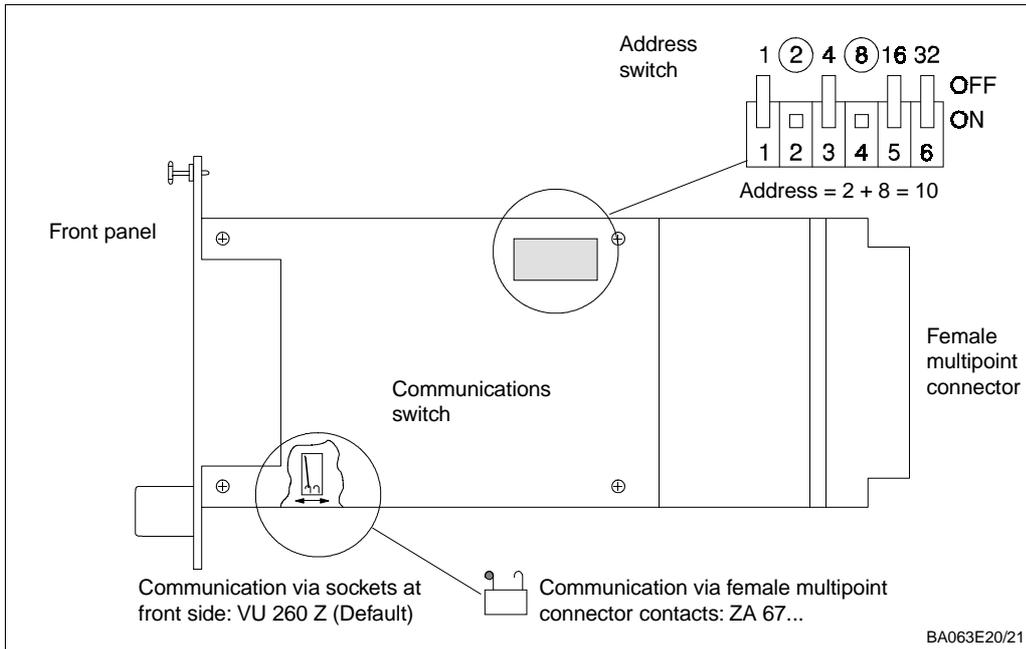

Fig. 2.10: Configuration elements of Silometer FMC 671 Z/676 Z shown for Commulog operation
Fig. 2.10 shows the configuration elements for remote operation of the Silometer FMC 671 Z/676 Z transmitter.
- When on, each switch is assigned the value shown in Fig. 2.10, inset. In the example the address is $2 + 8 = 10$.